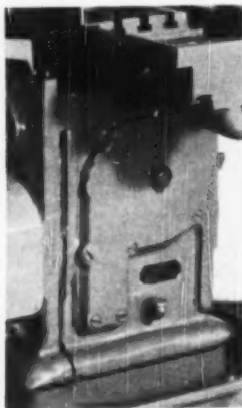

FIG. 11 PADS CAN GIVE AN UNWANTED EMPHASIS ON SCREWS AND FASTENINGS
**Flat Pads.** One of the most aggravating sights in machine tools is the appearance of bosses or recesses framing each and every screw used to fasten auxiliary parts to the machine frame. There seems to be a common belief that holes cannot be drilled into a surface unless the axis of the hole is absolutely perpendicular to the surface. Even the slightest angle or curvature of surface will provoke the use of a flat pad, elevated or depressed beyond the normal surface, as though the screwhead were something sacred, to be pointed out as the most important member of the machine. Fig. 11 shows the unpleasant outline of an irregularly shaped pad on the outer surface of a cover.